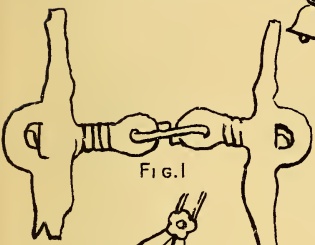

FIG. 1.
The shape of the bit within the mouth, if we may judge by the single instance of an actual bit which remains to us, bore a near resemblance to the modern snaffle (see Plate II., Fig. 1). Externally the bit was large and, in most cases, clumsy—a sort of cross-bar extending across the whole side of the horse's face, commonly resembling a double axe head or a hammer. Occasionally the shape was varied, the hatchet or hammer being replaced by forms similar to those annexed (see Plate II., Figs. 3, 4, 5, 6, and 7*). The rein seems in the early times to have been attached about midway in the cross-bar, while afterwards it became usual to attach it near the lower end. This latter arrangement was probably found to increase the power of the driver.
* The action of these bits must have been similar to that of our Liverpool bit. Fig. 1 is evidently the forerunner of the snaffle.—J. P.